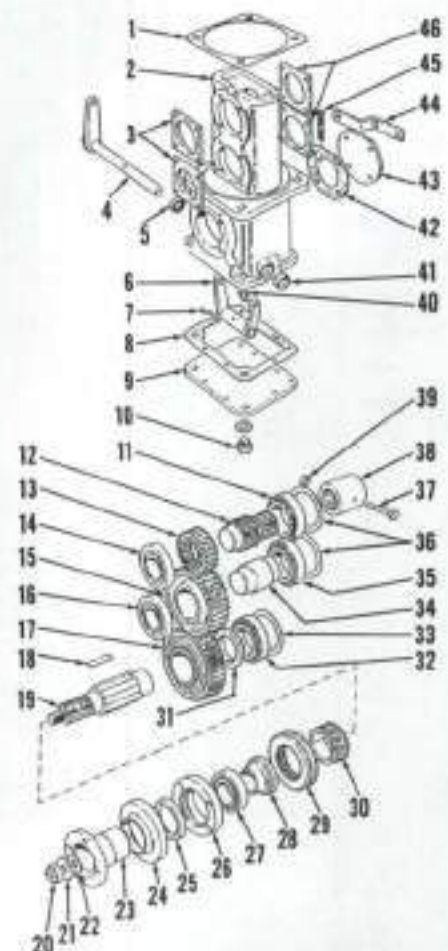

Fig. 16—Exploded view of transfer gearbox used with David Brown front drive axle showing component parts and their relative positions.
**19. R&R TRANSFER GEARBOX.** Drain oil from transfer case and transmission. Capacity is approximately 42 L (44 quarts). Remove front drive shaft. Engage front-wheel drive, then remove output shaft flange retaining nut (20—Fig. 16). Remove platform or cab, if equipped, as outlined in paragraph 348 or 349. Remove fuel tanks. Disconnect selector cable from selector shaft (4). Remove left and right shift lever housings from transmission top cover. Remove bolts from transmission top cover, remove wedge and shims between top cover and clutch housing, and remove top cover using a suitable hoist. Remove bolt (37) and locknut (39), then slide coupler (38) connecting transfer gearbox input shaft to transmission bevel pinion shaft rearward. Remove selector cable bracket (44) and hydraulic pump inlet pipe connector. Support transfer gearbox with a hydraulic jack, then remove gearbox mounting bolts and lower gearbox from transmission housing.
When reinstalling, laminated gasket (1—Fig. 16) must be the same thickness as original gasket, or layers peeled off to allow coupler (38) to slide freely onto input shaft (12) and bevel pinion shaft. Tighten transfer gearbox mounting bolts to 165 N·m (120 ft.-lbs.) torque. Tighten output shaft flange nut (20) to a torque of 190 N·m (140 ft.-lbs.). Install transmission top cover with wedge and same thickness of shims that were removed. Tighten three middle 3/4 inch bolts securing rear axle housing to top cover to 205-245 N·m (150-180 ft.-lbs.) torque. Tighten re-
**20. OVERHAUL TRANSFER GEARBOX.** With transfer gearbox removed, disassemble as follows: Remove end plates (3 and 46—Fig. 16) and shims (36). Note position and thickness of shims (36). Drive input shaft (12) and idler shaft (34) out of housing (2). Remove input gear (13). Remove front bearing and cup (16). Remove output flange (23), cork seal (22) and washer (21). Remove oil seal housing (26) and output shaft end cover (43). Note thickness of shims (33). Drive output shaft (19) out of housing (2), remove the six bearing pads (18) and bearing and cup (27). Remove bottom cover (9) and drive roll pin (7) out of selector fork (6) and remove selector shaft (4). Remove selector fork, fixed gear (30) and sliding gear (29). Remove output gear (17) and idler gear (15). Remove selector shaft oil seal (5) and core plug (41).
**21.** Install idler gear (15—Fig. 16) into bottom of transfer gearbox housing (2). Install output gear (17) into housing with hub for sliding gear engagement towards front of housing. Place fixed gear (30) inside sliding gear (29) and install output shaft (19) into rearward side of bottom hole in housing, pushing it through output gear (17) and partially through fixed gear (30). Oil slots on side of fixed gear (30) go against output gear (17). Spacer (31) and bearing (32) must already be assembled on output shaft (19). Install six bearing pads in output shaft, concave side against shaft, as it is pushed through output gear (17) and fixed gear (30). Install rear bearing cup (32), gasket (42), rear cover (43) and cable bracket (44) minus shims (33). Tighten bolts to 27 N·m (20 ft.-lbs.) torque. Install front bearing (27) and bushing (28) on output shaft and drive front bearing cup (27) into housing (2). Install oil seal (25) in oil seal housing (26) and install oil seal housing on transfer gearbox housing. Tighten bolts to 27 N·m (20 ft.-lbs.) torque. Hit end of output shaft (19) with a plastic hammer to seat bearings and cups.
To determine proper shim (33—Fig. 16) thickness, subtract 0.025 mm (0.001 inch) from dial indicator measurement if new bearings were installed, or subtract 0.076 mm (0.003 inch) from dial indicator measurement if original bearings are reused. The result is the required shim thickness to provide recommended end play.
Install oil seal (5—Fig. 16) into housing (2) and place trunnion pins (40) in selector fork (6). Install selector fork in housing, making certain trunnion pins engage slot in sliding gear (29). Install selector shaft (4) through oil seal (5) and selector fork. Align roll pin holes in selector fork and shaft and install roll pin (7). Install core plug (41), bottom cover gasket (8) and bottom cover (9). Install flange (23), cork washer (22), washer (21) and locknut (20). Tighten locknut to 190 N·m (140 ft.-lbs.) torque.
**22.** Install idler shaft (34—Fig. 16) and bearing assembly through rear of housing and drive it through idler gear (15). Install rear bearing cup (35) and end plate (46). Tighten bolts to 27 N·m (20 ft.-lbs.) torque. Drive front bearing (16) onto idler shaft (34) until seated. Install bearing cup (16) and end plate (3). Tighten bolts to 27 N·m (20 ft.-lbs.) torque and hit idler shaft (34) to seat bearings.
Mount dial indicator so end of probe contacts end of idler shaft (34—Fig. 16). Measure and record amount of end play. End play tolerance is 0-0.05 mm (0-0.002 inch) for new bearings and 0.05-0.10 mm (0.002-0.004 inch) for used bearings.
To determine correct shim (36—Fig. 16) thickness, subtract 0.025 mm (0.001 inch) from dial indicator measurement if new bearings are used, or subtract 0.076 mm (0.003 inch) from dial indicator measurement if original bearings are reused. The result is the required thickness of shims needed to obtain desired end play.
Remove rear end plate (46—Fig. 16) and install correct shim (36) thickness. Reinstall end plate (46) and tighten bolts to 27 N·m (20 ft.-lbs.) torque. Recheck end play and adjust shim thickness, if necessary, if not within required tolerance.
**23.** Install input shaft (12—Fig. 16) and bearing assembly through front of